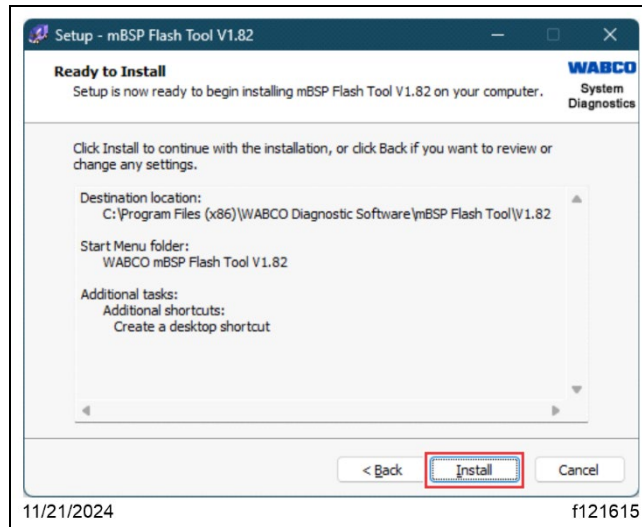

Fig. 40, Starting the Installation
7.11. On the 'Ready to Install' screen, select 'Install' to continue with the installation. See Fig. 40.